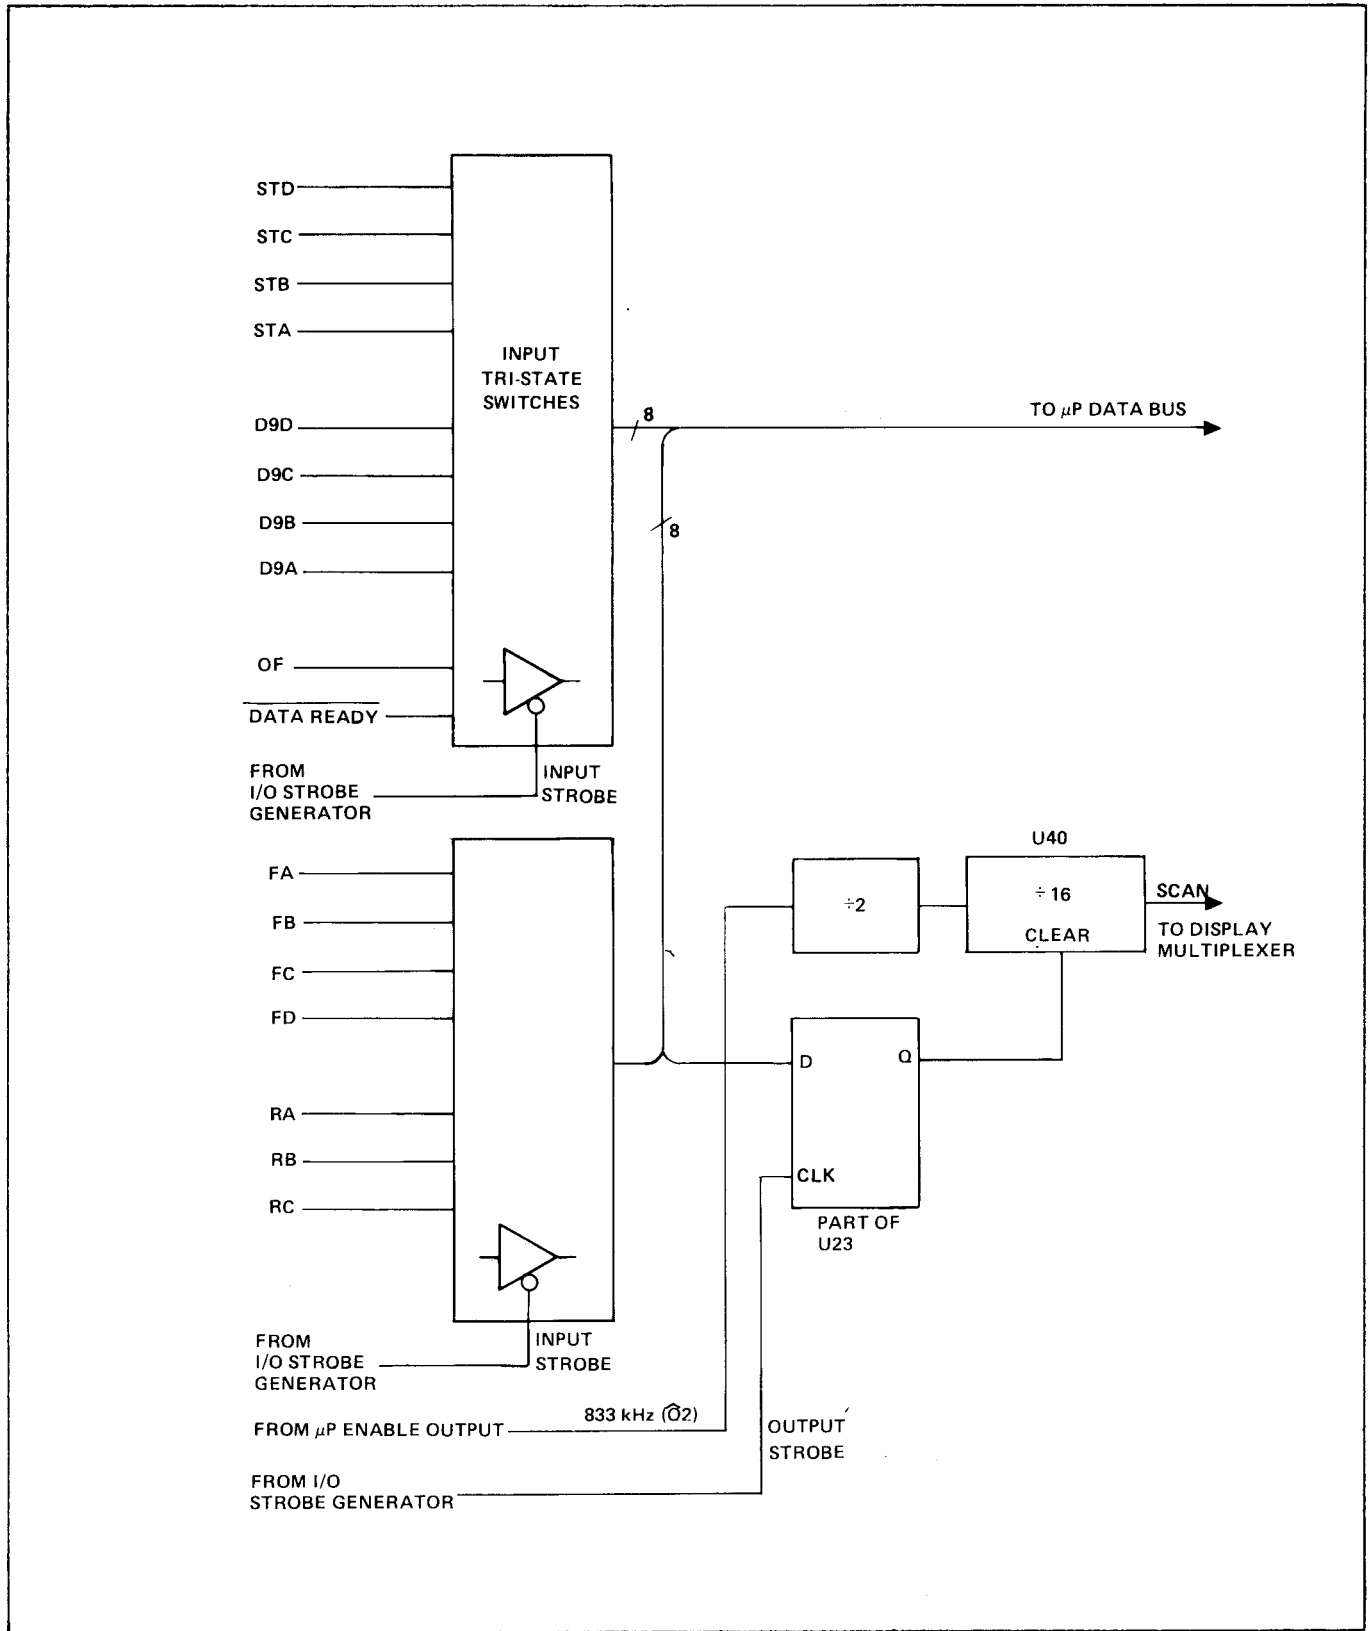

Figure 1.45 - Status and Measurement Data Input Simplified Schematic Diagram
1.5.3.2.1 Figure 1.45 shows a simplified schematic of the Status and Measurement Data Input switches. The processor receives the status of the instrument by sending a strobe signal to the input tri-state switches. Upon receipt of the strobe, the FUNCTION AND RANGE coded information is placed on the processor data bus. Table 1.11 shows the binary code corresponding to each function and range.